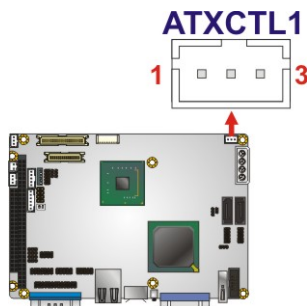

Figure 4-4: AT/ATX Mode Jumper Location
- Jumper Location:** See Figure 4-4